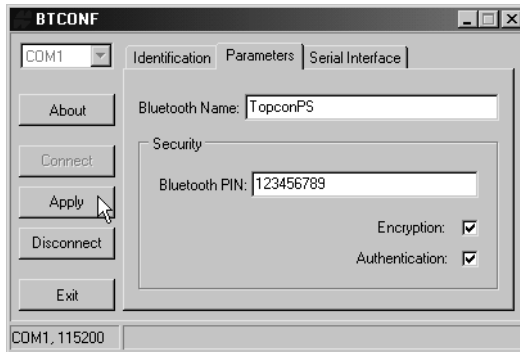

Figure 2-38. BTCONF Security Parameters
8. To set security parameters (Figure 2-38 on page 2-39), enter and enable the following, then click **Apply**: